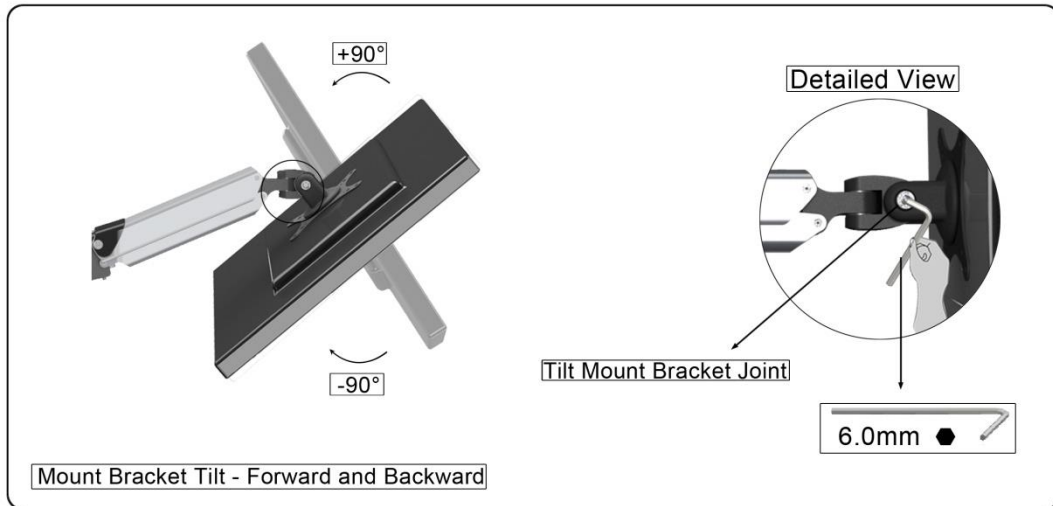

Figure 5-2
- To adjust the resistance on the VESA bracket, use the provided 6mm hex Allen wrench to loosen or tighten the hex screw until you have reached your desired position (See Figure 5-2).